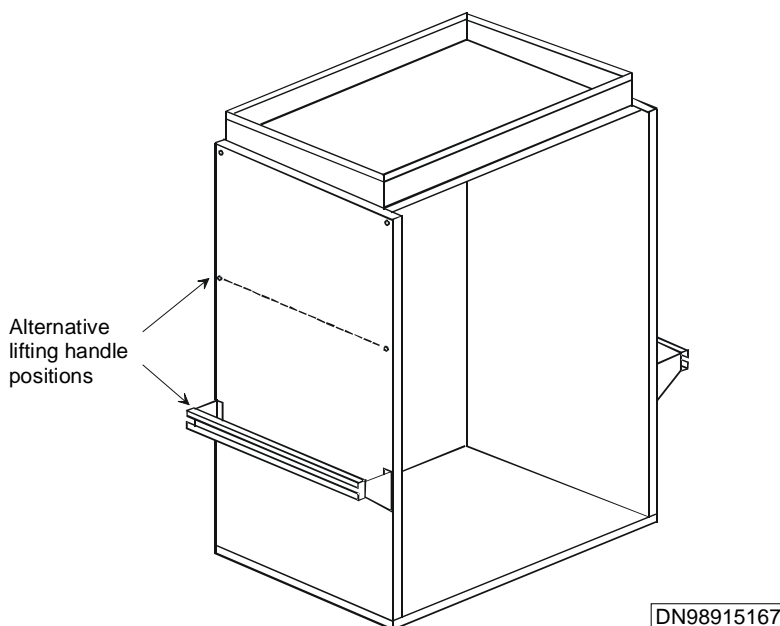

Figure 16 Cabinet lifting handle positions
There are two alternative fixing positions for the handles, as shown in Figure 16. The handle fixing screws are included in the lifting handle delivery package.
1. Place the lifting handle against the cabinet side panel as shown in Figure 16.